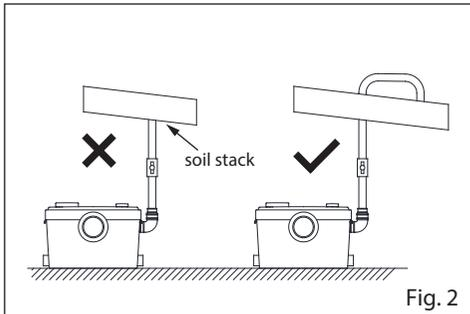

Fig. 2
- a. Connect the discharge pipe to the soil stack as the figure shows.(Fig 2)